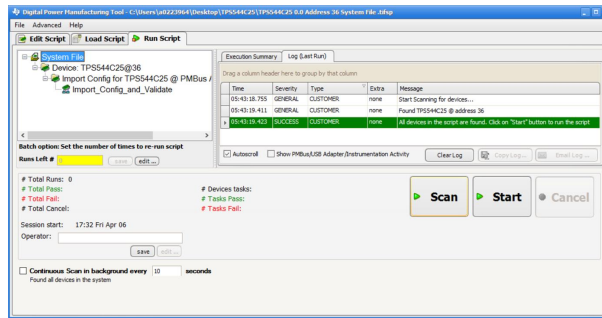

Figure 27. Running Script
4. After the “Run Script” tab appears, click the Scan button to find the device (shown in Figure 27).